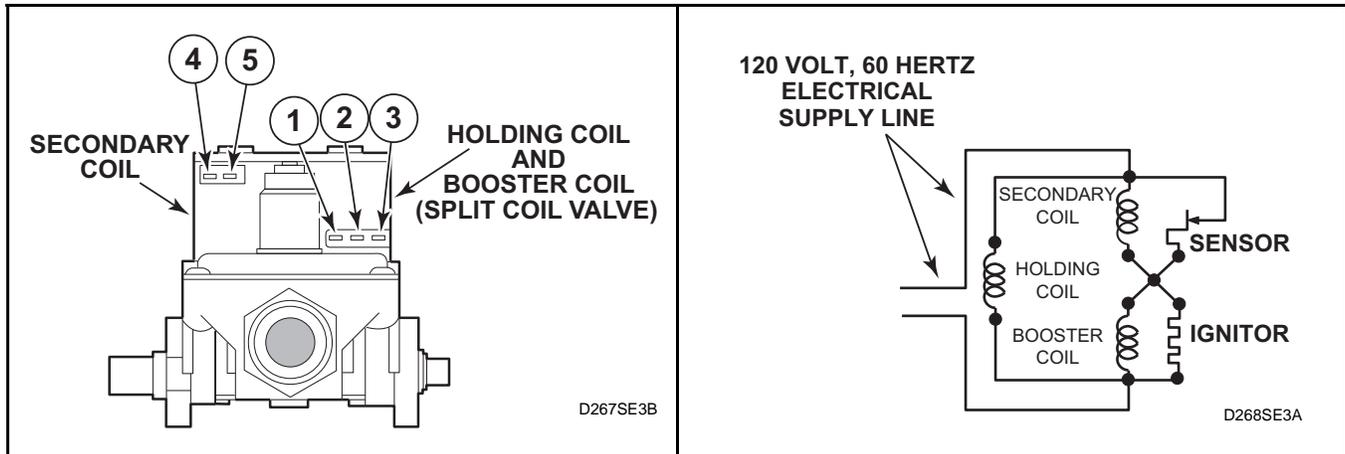

Figure 30
Refer to *Figure 30*.
- f. Set test meter to read AC voltage and apply meter probes into terminals on the dryer harness plug that would correspond to terminals "1" and "2" on the coil. *Figure 30*. Meter should register line voltage in all temperature settings, except FLUFF (NO HEAT) which should read "zero" VAC.